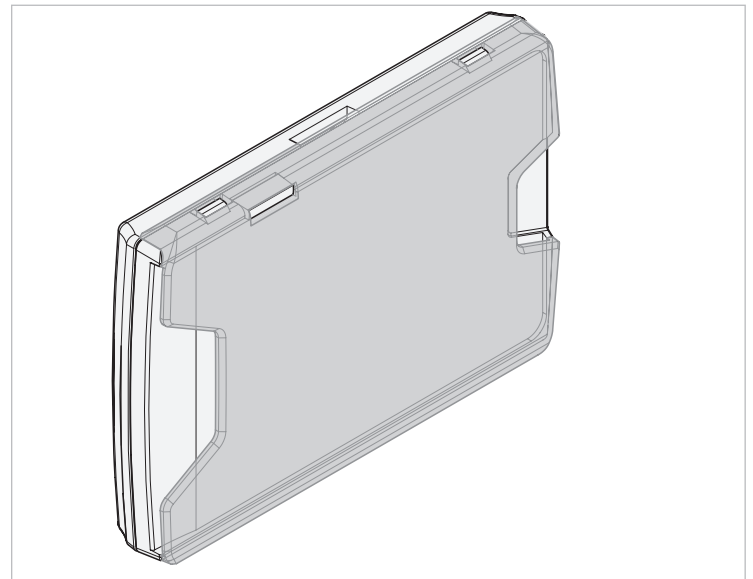

Fig. 7 Staff badge with ISO card holder
- ▶ Press the cancellation button (4, Fig. 7) once while bringing the staff badge up to 50 cm from the alarm trigger device.